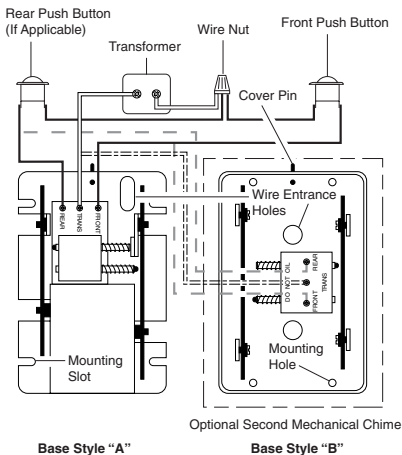

Figure 1
- Route wires through wire entrance holes (see Figure 1).
3. Run two No. 20 AWG or better bell wires (Heath®/Zenith No. 196C or No. 199C accessory wire) to the chime location. Strip away 1/2" of insulation from end of wires. Connect each wire to transformer (see Figure 1).
5. Mount push button(s) to door frame(s). Run two No. 20 AWG bell wires from push button(s) to the chime location. Strip away 1/2" of insulation from end of wires. Connect each wire to push button(s) (see Figure 1).
8. Strip away 1/2" of insulation from end of wires. Connect wire "F" to the screw terminal marked "FRONT". Connect wire "T" to screw terminal marked "TRANS". Connect wire "R" to screw terminal marked "REAR" (see Figure 1).
7. Connect wire "F" to the screw terminal marked "FRONT". Connect wire "T" to screw terminal marked "TRANS". Connect wire "R" to screw terminal marked "REAR" (see Figure 1). *Note:* The common connection may exist elsewhere in the original installation and may not be visible.